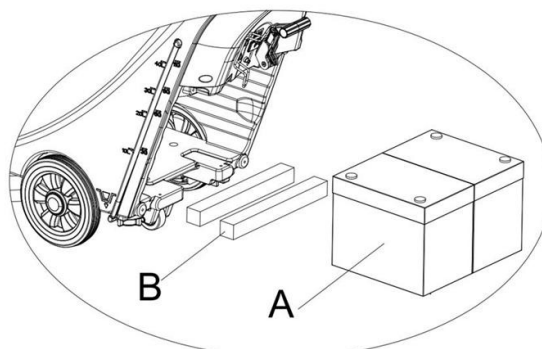

Figure 6
- 1) For battery with length below 270mm, use 2 pieces of the fixation board (B, Figure 6) and place them side by side inside the water tank battery;
- 2) For battery with length between 310mm-270mm, use 1 piece of the fixation board (B, Figure 6) and place it in the water tank battery;